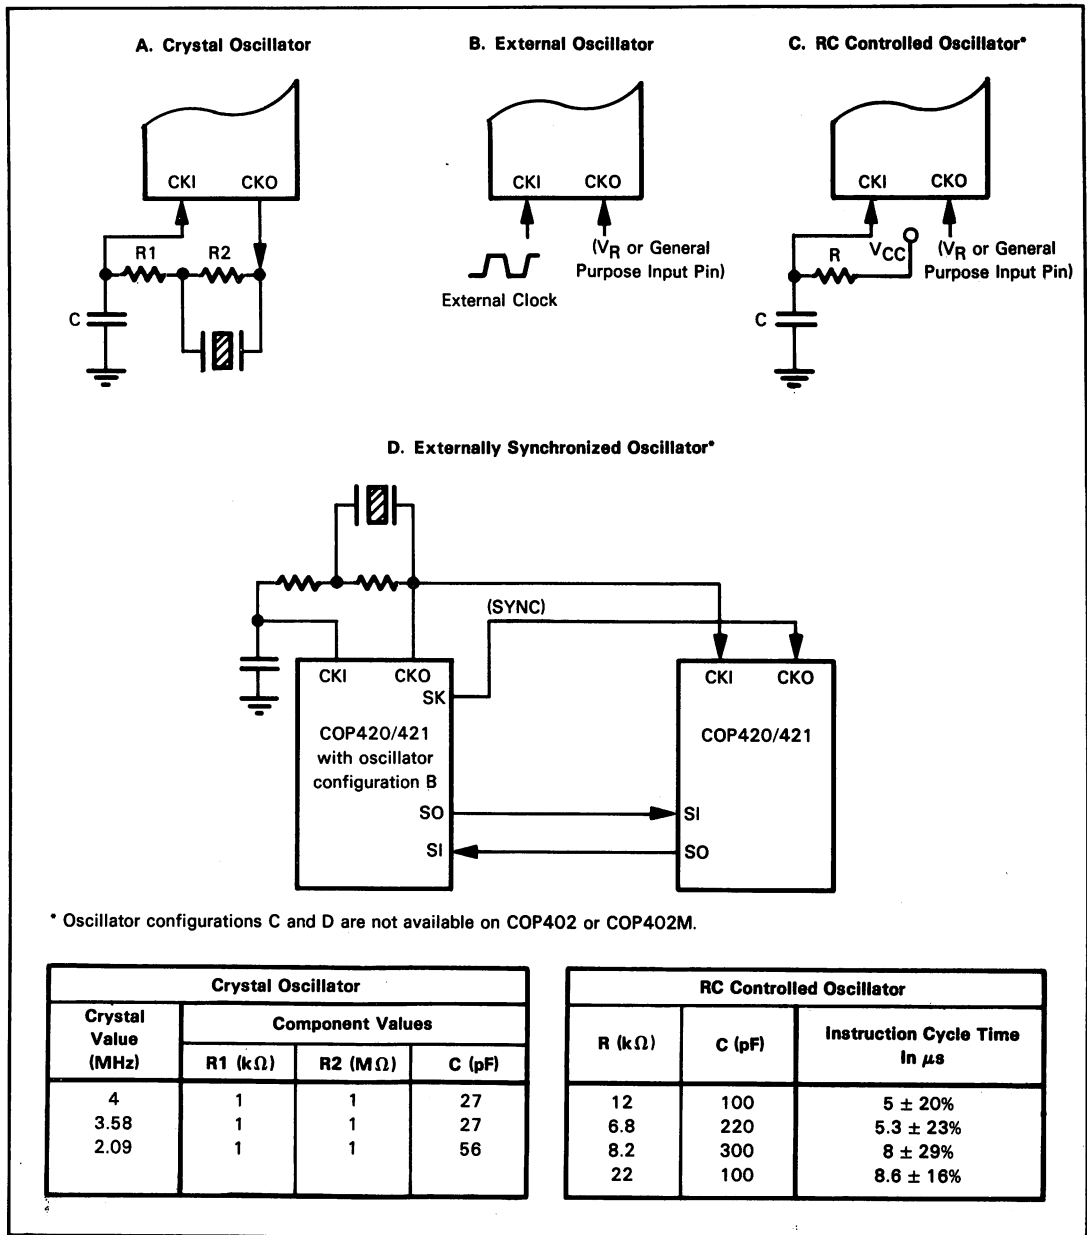

Figure 1-18. COP400 Clock Options
**CKI (Clock Input) and CKO (Clock Output) are the two system timing pins.** There are four possible mask programmable options for these pins: crystal controlled oscillator, external oscillator, RC controlled oscillator, and externally synchronized oscillator. All of these options are illustrated in Figure 1-18.